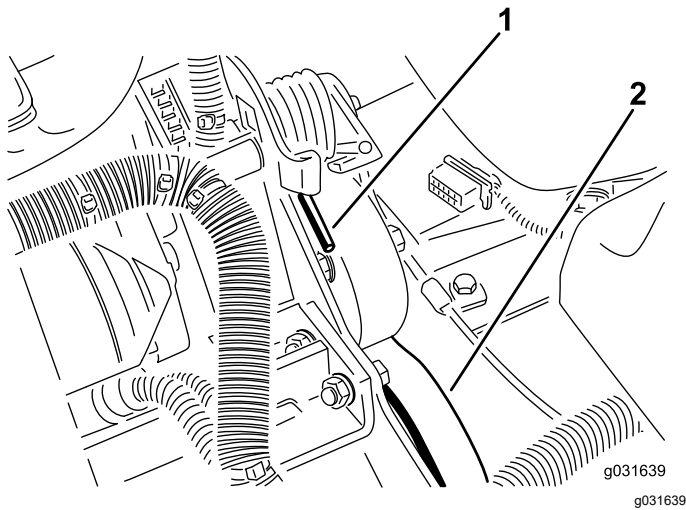

Figure 63
2. Push down and forward on the spring end to unhook it from the bracket and release tension on the spring (Figure 63).